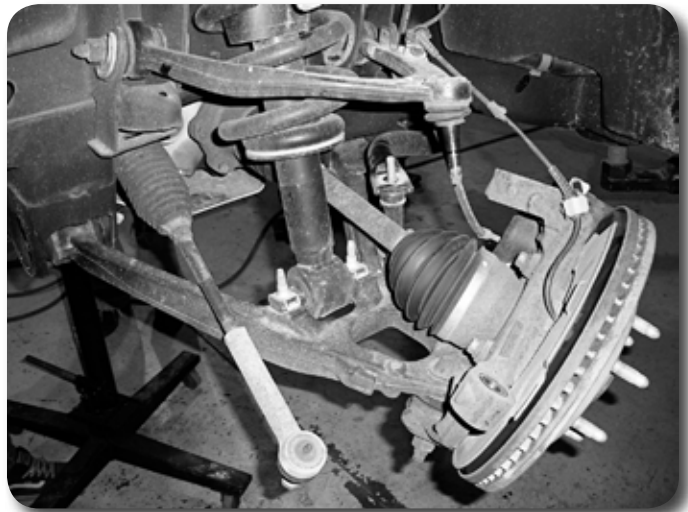

Figure 2
8. Mark the upper control arm cam position. Remove the stock upper control arm. **Figure 2**